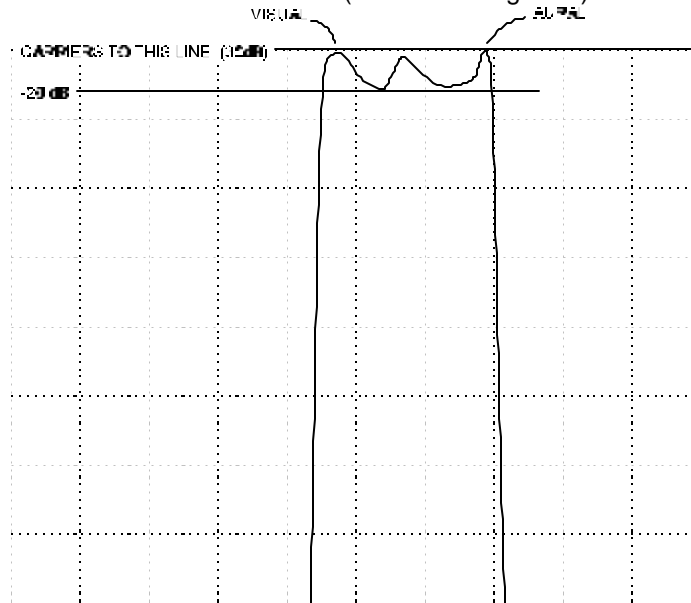

Figure 4. Ideal Return Loss
14. Return loss should be 30 dB at carriers (Reference Figure 4).